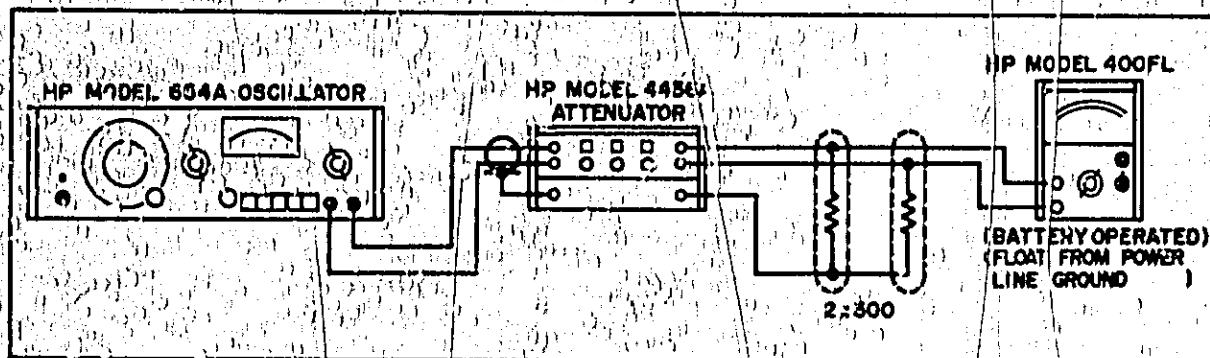

Figure 5-1. AC Performance Test Setup
5-11. The ac performance test setup is illustrated in Figure 5-1. An Oscillator (HP 654A) and a battery operated ac voltmeter (HP 400EL or 400FL with external battery) are required for this test. In addition, two 300Ω 1 watt resistors (HP Part No. 0761-0053) are required. These resistors must be enclosed in a shield as shown in Figure 5-1. The range-to-range accuracy of the battery operated ac voltmeter (HP Model 400FL) from +20dB to -60dB must be known to within 0.1dB at 100kHz and 1MHz. Any errors
- a. Assemble test setup as illustrated in Figure 5-1 (See Paragraph 3-9).